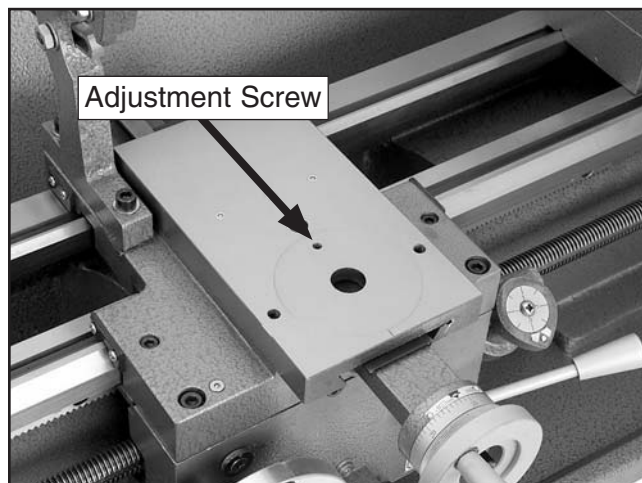

Figure 73. Cross slide backlash adjustment set screw (compound slide removed).
3. Adjust the backlash adjustment cap screw shown in **Figure 73** in small increments.